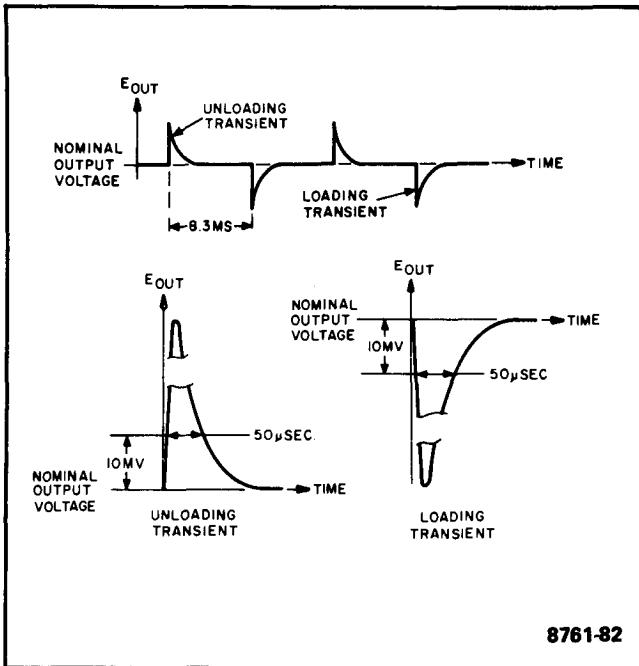

Figure 5-5. Load Transient Recovery Time Waveforms
**5-27 Load Transient Recovery Time (Figure 5-5)**
- Starting from the major graticule division representing time zero, count to the right 50μsec and vertically 10mV. Recovery should be within these tolerances as illustrated in Figure 5-5.